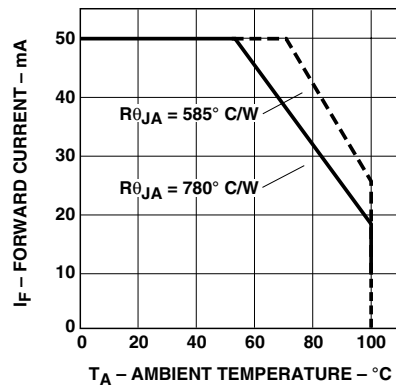

Figure 4. Amber, red maximum forward current vs. ambient temperature.
1. Derate linearly as shown in figure 4.